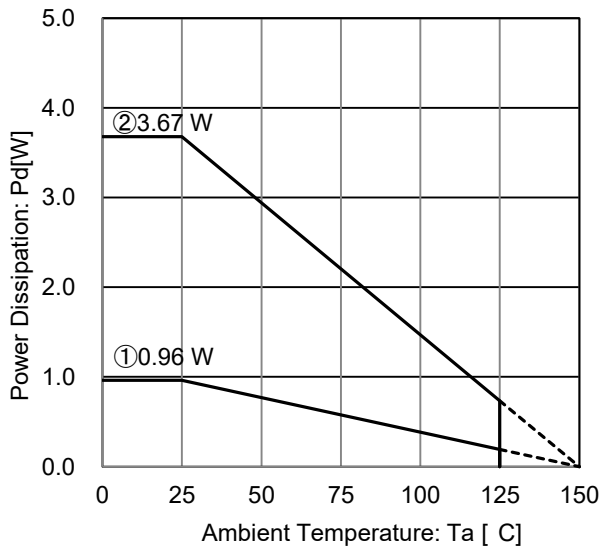
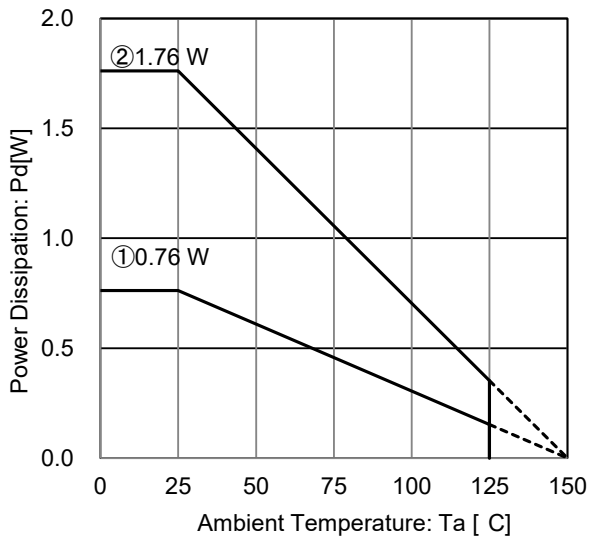

Figure 25. HTSOP-J8 Package Data
Figure 27. SOT223-4(F) Package Data
Refer to the heat mitigation characteristics illustrated in Figure 25 to Figure 27 when using the IC in an environment of $T_a \geq 25^\circ\text{C}$. The characteristics of the IC are greatly influenced by the operating temperature, and it is necessary to operate under the maximum junction temperature T_{jmax} . Even if the ambient temperature T_a is at 25°C it is possible that the junction temperature T_j reaches high temperatures. Therefore, the IC should be operated within the power dissipation range.
At $T_a = 125^\circ\text{C}$ with Figure 25 ② condition, the calculation shows that ca 71.5mA of output current is possible at 10.2V potential difference across input and output.
At $T_a = 125^\circ\text{C}$ with Figure 25 ② condition, the calculation shows that ca 85.8mA of output current is possible at 8.5V potential difference across input and output.
At Ta=125°C with Figure 27 ② condition, the calculation shows that ca 34.3mA of output current is possible at 10.2V potential difference across input and output.
At Ta=125°C with Figure 27 ② condition, the calculation shows that ca 41.1mA of output current is possible at 8.5V potential difference across input and output.